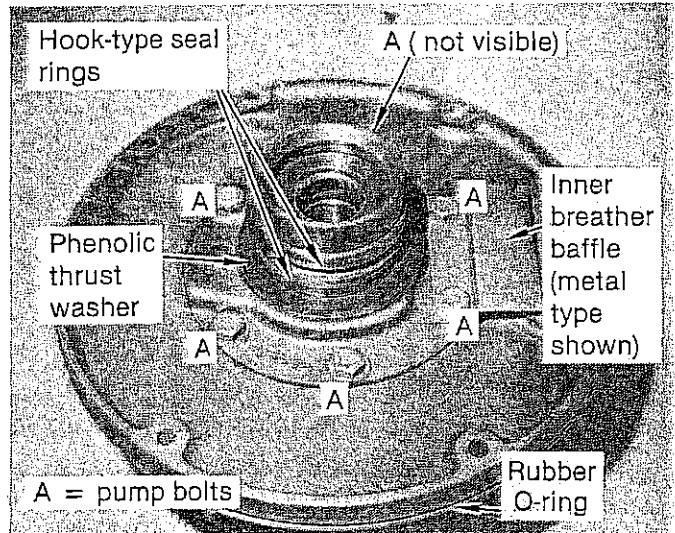

FIGURE 22
**STEP 1.** Remove and discard the O-ring on the outside diameter of the pump and the two metal hook-type seal rings on the rear of the pump. (See Fig. 22) Remove the phenolic thrust washer on the back on the pump. Set it in the oil pan.
**STEP 2.** Remove six oil pump bolts and metal breather baffle from rear of oil pump. (See Fig. 22) Do not try to remove late model plastic breather baffles as they are riveted in place. Also take care not to crack the plastic baffle. Remove reaction shaft support from pump cover. Remove pump inner and outer rotors. Remove and discard front oil seal.